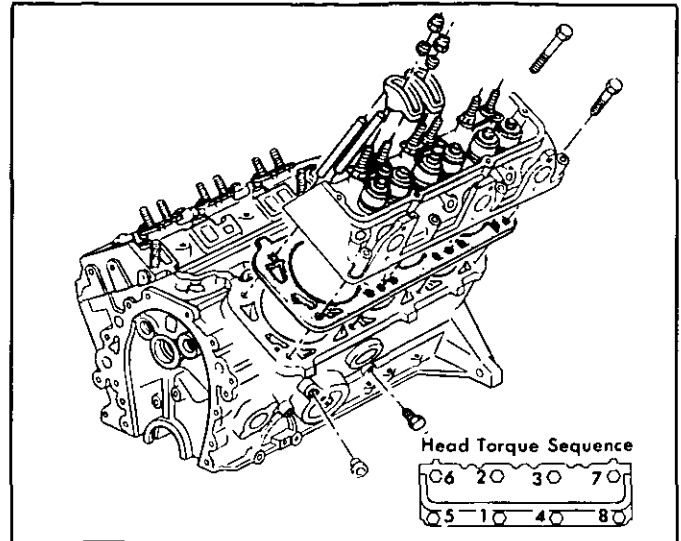

Figure 16 Cylinder Head Installation
- Bolts in sequence - 90 N·m (66 lb.ft.) (Figure 16).